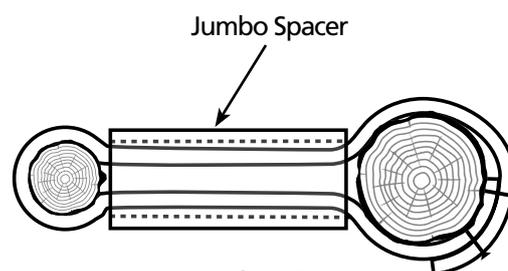

Fig 16
3) We suggest making the top strapping assembly first by using 38 mm (1¾ inches) Easy Flex Strapping (fig17) which will allow the top of the tree stem some slight flexibility to allow the tree to develop its own resistance to wind loadings and reduce the risk of wind damage to the stem once the tying system has been removed. This top strapping needs to be positioned about 25 mm (1 inch) below the top of the fixing stakes and we need to form a figure '8' shape (fig16) between each of the two stakes and the tree separately by passing the Easy Flex Strapping around the tree then both ends of the strap through a Jumbo Spacer (fig18) cut to the required length which is the distance between the stake and the tree less 100 mm (4 inches). We then continue with the straps out of the Spacer and then around the outside of the tree stake and fix the strap to the outside of the stake using two flat head galvanised clout or roofing nails making sure they both go through both ends of the strap (fig16) and through one of the pre formed and reinforced nail holes. Repeat this process for the opposite side top strapping position, again using the more flexible Easy Flex Strapping, making sure the tree is held firmly in position by these two straps once the top assembly has been completed. We can now complete the assembly repeating this process for the lower strapping at a height halfway between the top strapping level and ground level but using the 38 mm (1¾ inches) Easy Fix Strapping (fig12) product to provide a very stable lower stem to protect the root ball effectively.